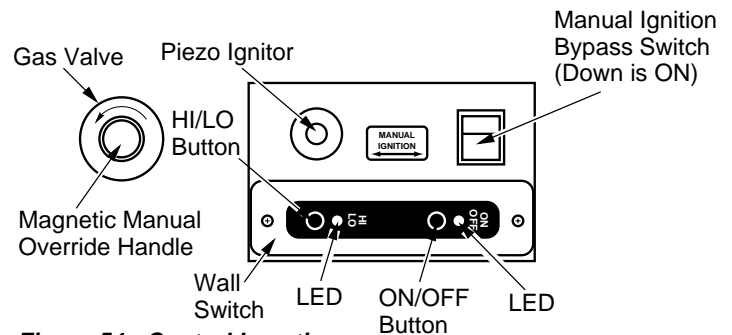

Figure 54 - Control Locations
2. Set manual ignition bypass switch on control panel to ON position (manual ignition position). See Figure 54.
4. Place the magnetic manual override handle, provided with this unit, on the end of the gas valve stem (see Figure 54).
6. While holding the valve handle in the PILOT position, press and release piezo ignitor button (see Figure 54). This will light the pilot. If needed, keep pressing ignitor button until pilot lights.